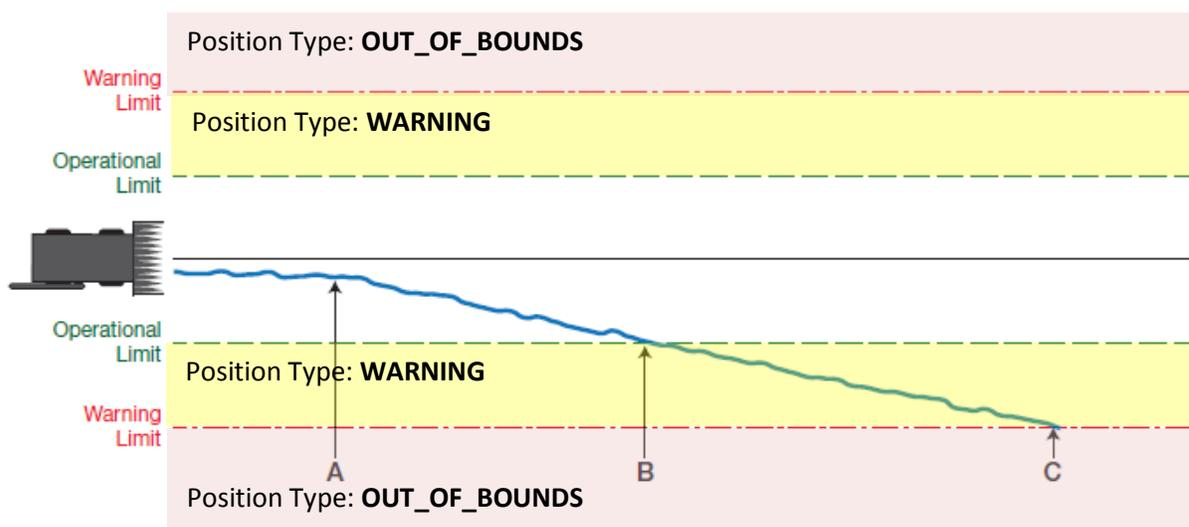

Figure 9 – STEADYLINE USER ACCURACY LEVEL (UAL) Mode Operation – Out of Bounds
In the Figure 9 below, the position reported exceeds the operational limit (B) and STEADYLINE changes to TRANSITION mode and the position type changes to WARNING. If the position reported continues to drift off beyond the Warning Limit (C), the position type will be reported as OUT\_OF\_BOUNDS and STEADYLINE will be automatically reset.